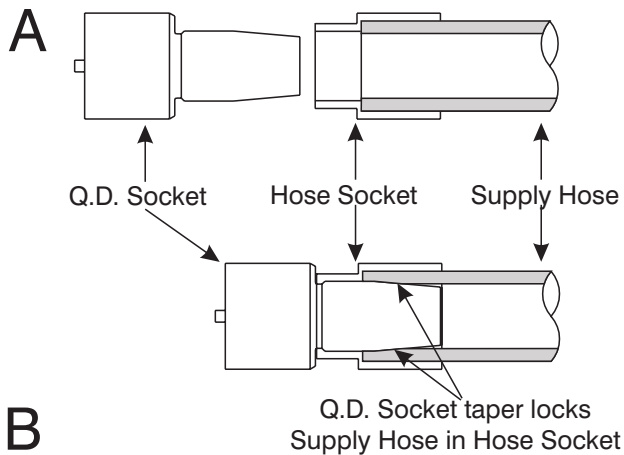

Figure 9-10. Thread Tapered End of Q.D. Socket into Hose Socket.
7. Start the tapered end of the Q.D. Socket (17) into the Hose Socket. See Figure 9-10-A.
8. Apply a 2-inch open-end wrench across the flats of the Q.D. Socket (17), and thread it into the Hose Socket (14). See Figure 9-10-B.
7. Use a 2-inch open-end wrench to tighten the Q.D. Plug (15) into the Hose Socket (14). See Figure 9-10-B.